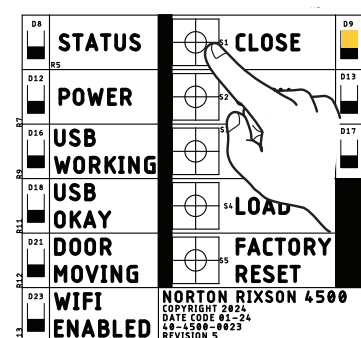

Figure 1
- The yellow CLOSE LED will change from flashing to solid. (Figure 1)